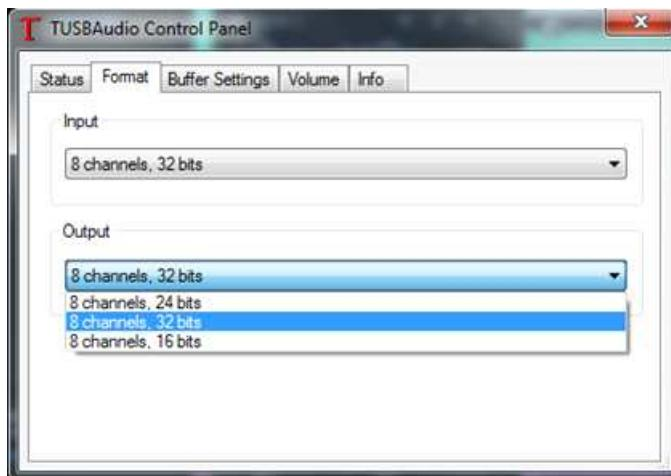

Figure 3. Thesycon Driver Control Panel
10. Set the bit depth as desired using the Thesycon Control Panel accessible from the system tray shown in Figure 3.
8. Set the bit depth as desired using the Thesycon Control Panel accessible from the system tray shown in Figure 3.